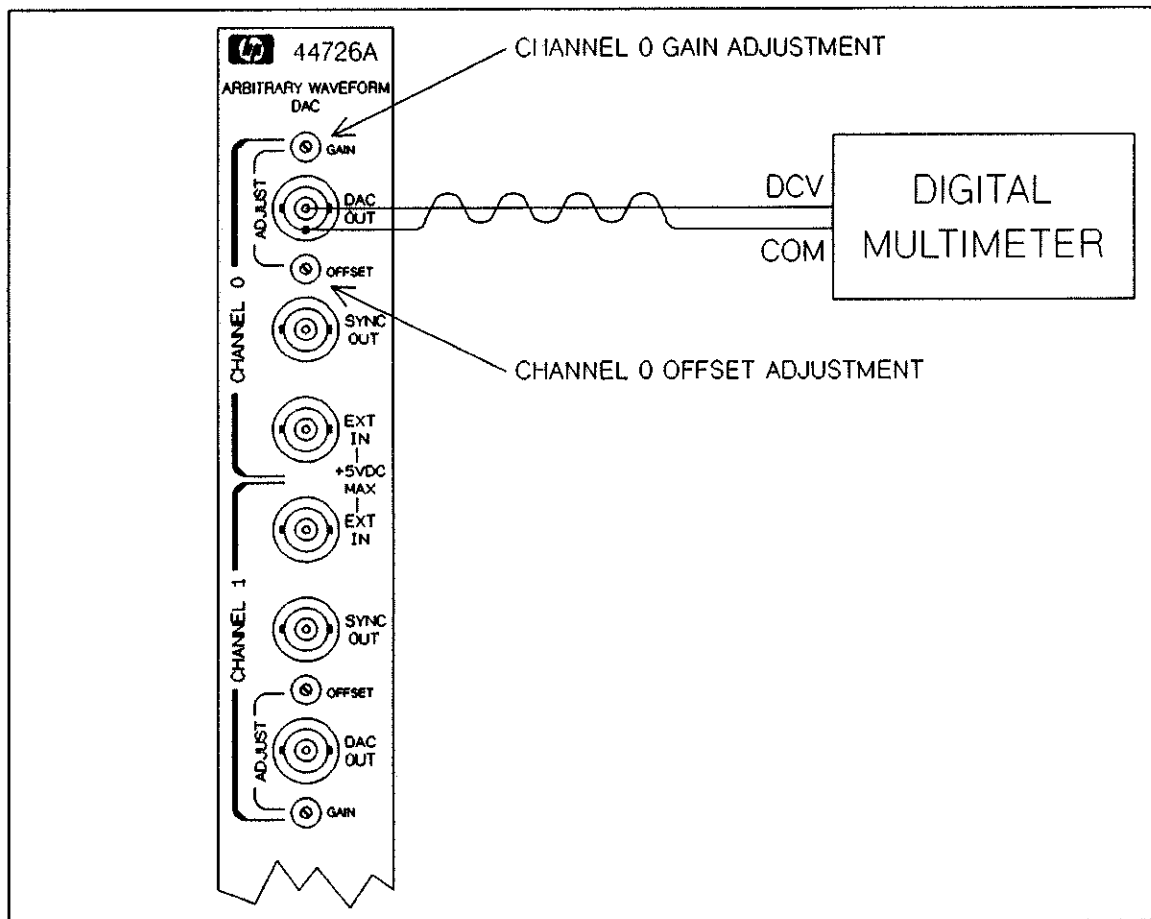

Figure 21-15 Channel 0 Calibration
2. Refer to Figure 21-15. Connect the digital multimeter to the accessory's DAC OUT connector on channel 0.
4. Refer to Figure 21-15 to locate the "OFFSET" potentiometer. Using a small flat blade screwdriver, adjust the potentiometer for a 0 V reading on the digital multimeter.
6. Refer to Figure 21-15 to locate the "GAIN" potentiometer. Using a small flat blade screwdriver, adjust the potentiometer for a +10.235 V reading on the digital multimeter.